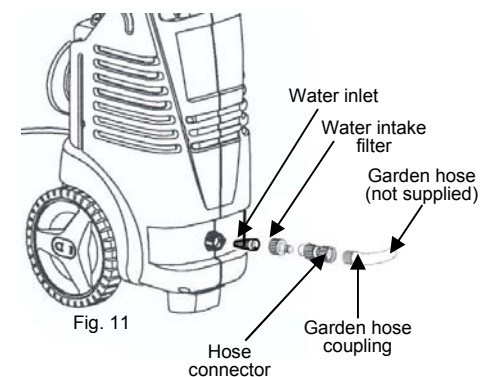

Fig. 11
- Make sure that the water intake filter is inside the water intake inlet. (Fig. 11)
- Attach the male adapter (supplied) to the water intake connector on the front side of the unit. (Fig. 11)
- Attach the female hose coupling to the garden hose. (Fig. 11)
- Connect the female hose coupling to the male adapter making sure that it is tightly secured in place. (Fig. 11)